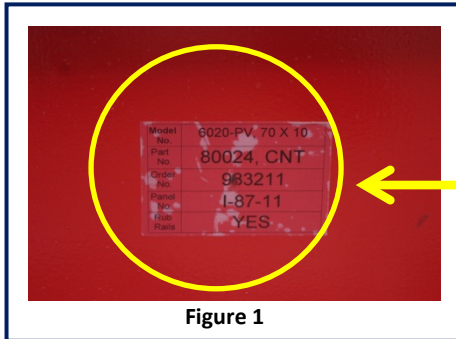

Figure 1
1. Identify the center module. The center module will have load blocks at each end weldment of the module. There is also a decal identifying the center module located on one of the end weldment. See Figure 1.